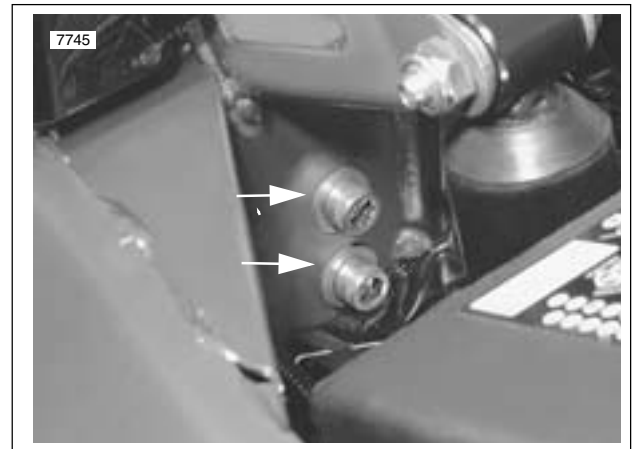

Figure 2-114. Frame-to-Isolator Bolts
6. See Figure 2-114. Remove two allen bolts connecting frame to isolator.